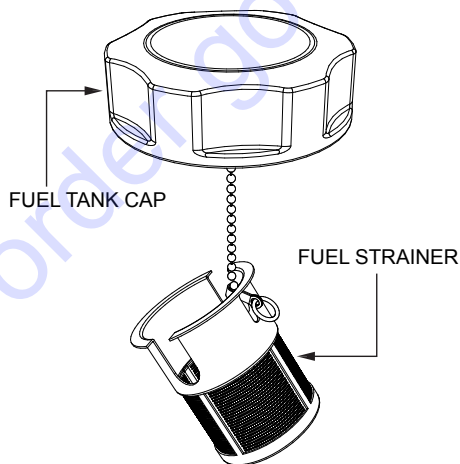

Figure 26. Fuel Strainer
3. Next, remove, inspect and clean the fuel strainer (Figure 26) with solvent.